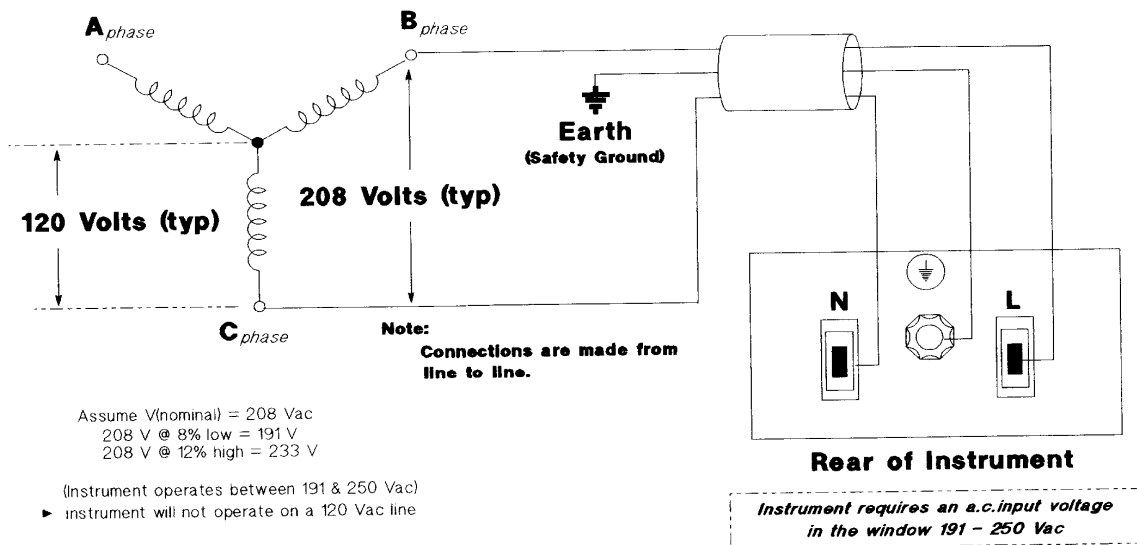

Figure 2-3. 667xA Connection to a 3-Phase Line
1. If they are not already in place, position the strain relief connector (11), safety cover (5), rubber boot (9), and connector nut (8) on the power cord (7).
2. Secure the ground wire (2) to the chassis earth ground stud.
3. For single-phase operation, connect the neutral wire (1) to the N input terminal and the line wire (3) to the L input terminal (this line is fused inside the supply).
4. For line-to-line operation from a three-phase source as shown in Figure 2-3, connect one phase to the N input terminal and another phase to the L input terminal (this line is fused inside the supply).
5. Position the safety cover over the power input terminals and tighten the cover screws (10) and strain relief connector screws (6). Torque the cover screws using 10 to 12 inch-pounds (1.13 to 1.36 Newton meters). Torque the strain relief screws using 2 to 4 inch-pounds (0.23 to 0.45 Newton meters).